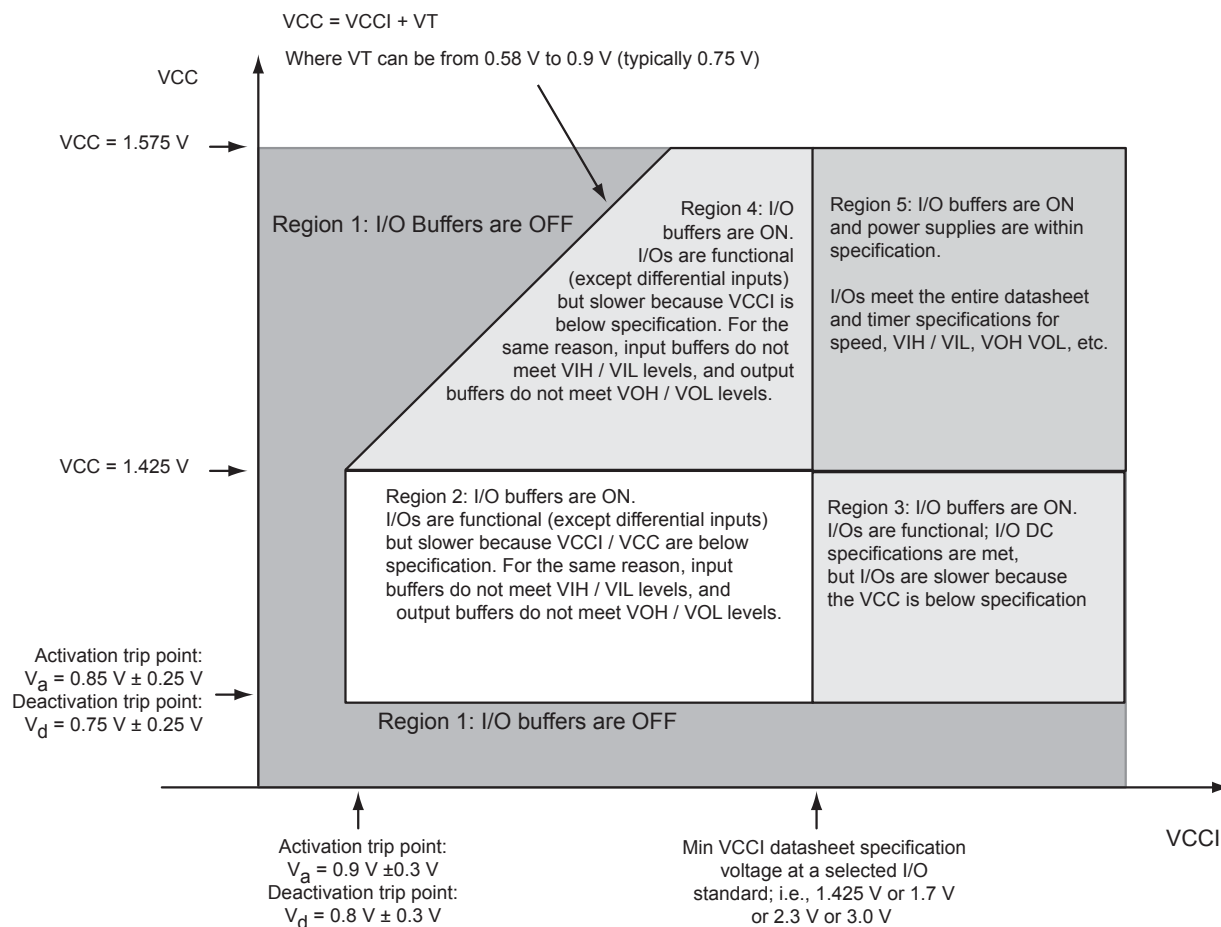

Figure 3-1 • I/O State as a Function of V_{CCI} and V_{CC} Voltage Levels
Sophisticated power-up management circuitry is designed into every Fusion device. These circuits ensure easy transition from the powered off state to the powered up state of the device. The many different supplies can power up in any sequence with minimized current spikes or surges. In addition, the I/O will be in a known state through the power-up sequence. The basic principle is shown in Figure 3-1 on page 3-6.
1. VCC and VCCI are above the minimum specified trip points (Figure 3-1).
Actel recommends using monotonic power supplies or voltage regulators to ensure proper power-up behavior. Power ramp-up should be monotonic at least until VCC and VCCPLX exceed brownout activation levels. The VCC activation level is specified as 1.1 V worst-case (see Figure 3-1 on page 3-6 for more details).